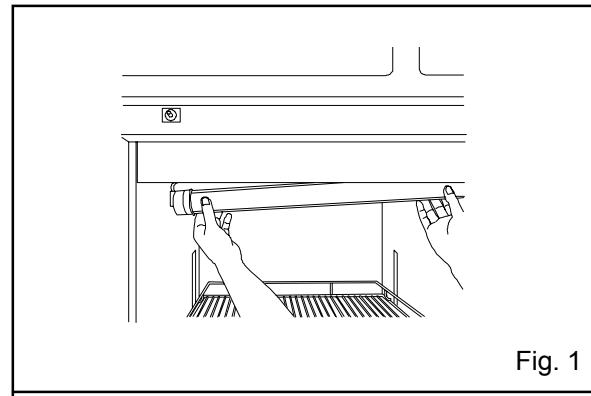

Fig. 1
3. Pull the fluorescent lamp downwards from the stopper together with the lamp cover and wiring. [Fig. 1]